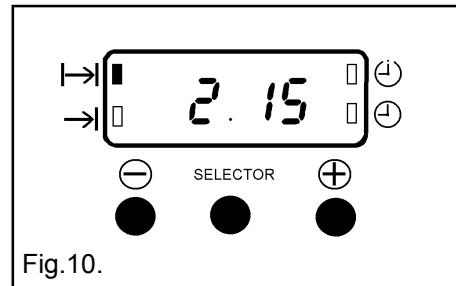

Fig.10.
- iii) To set the length of cooking time, press the Selector Control button until the 'Cook Time' (|→|) indicator is illuminated. Press the increase control (⊕) until the required length of cooking time is displayed, e.g. 2 hrs 15 mins as Fig. 10. Depress the decrease control (⊖) if necessary.